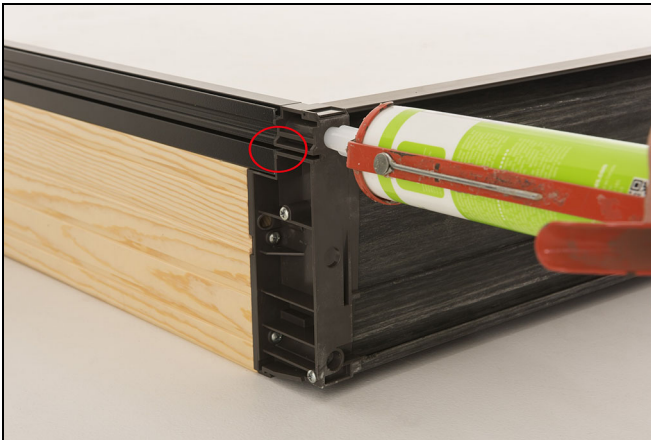

Figure 11
7. Inject the cladding screw boss until squeeze out occurs. If supplied, install jamb extension. See Figure 11.